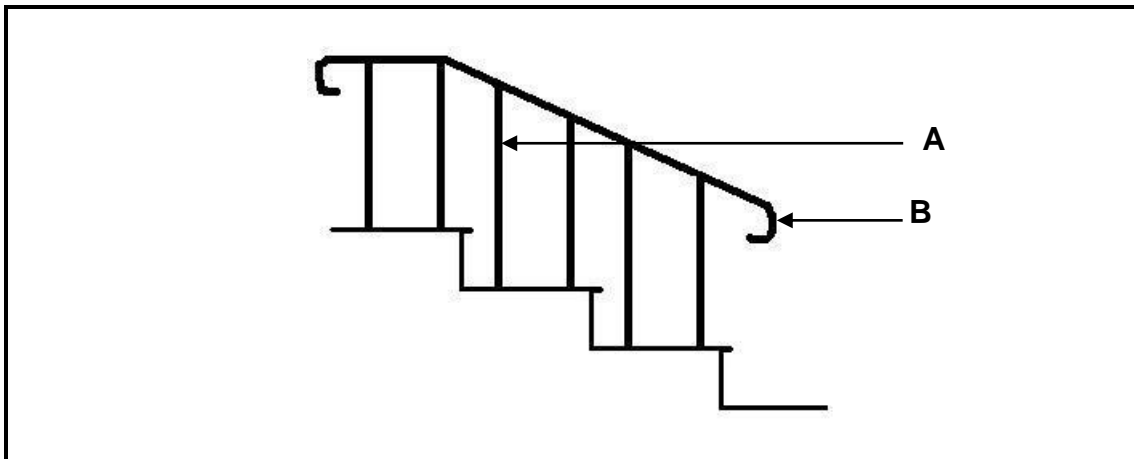

FIGURE 3.7
3.7 Answer the following questions regarding the staircase in FIGURE 3.7.